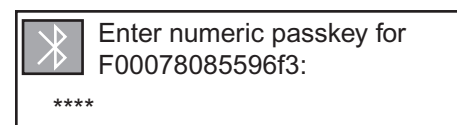

Fig. 11
5. Enter numeric passkey for the device. The passkey is "0000". The device should now be paired with the oven (Fig. 11).